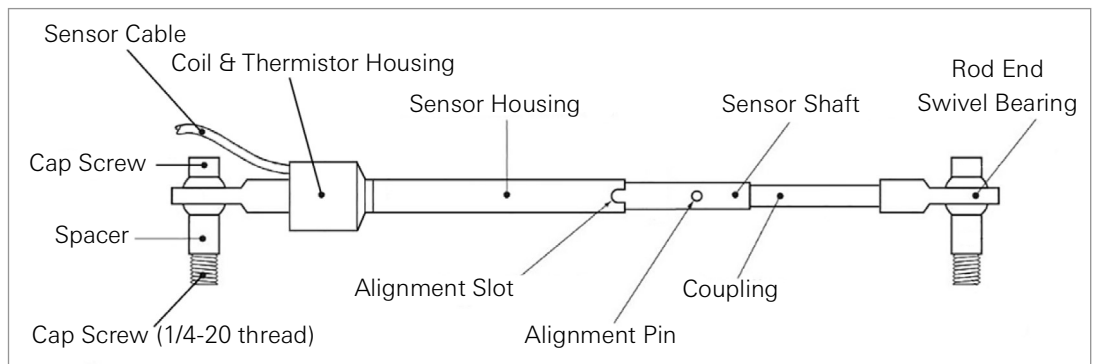

FIGURE 1: Model 4420 Vibrating Wire Crackmeter
- Hold the sensor in this position while the distance between the cap screws is measured (set inside the swivel bearings, see Figure 1). This measurement can serve as a spacing guide for drilling or welding the anchor points.